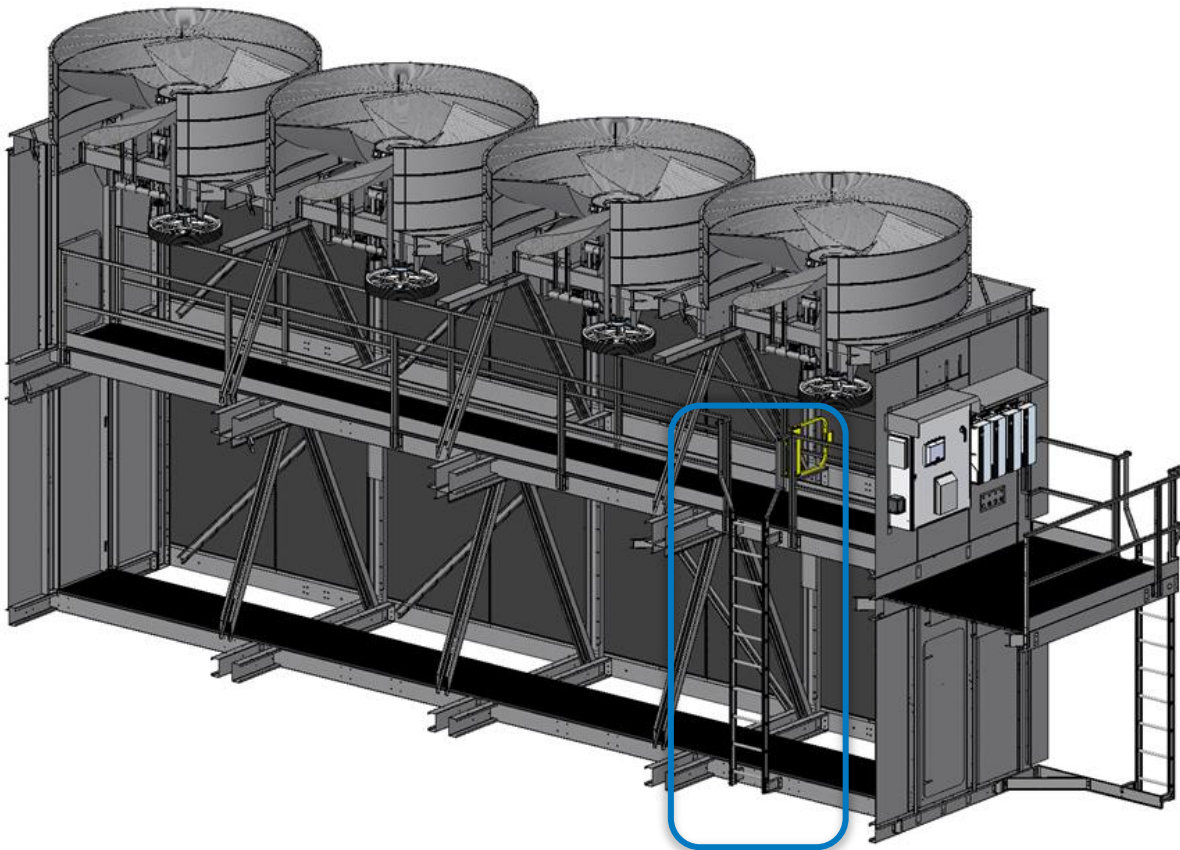

**Figure 41. Access Door Platform Installation**
This section sets forth the procedures for installing the access door platform. An image of the installed platform appears in **Figure 41**. The platform can be on either side of the unit; its placement may depend on site specifications. Handrails and toeboards are pre-assembled to the access door platform. See submittal for job-specific details.
1. Starting with the factory assembled access door platform shown in **Figure 41** align the platform railings and platform with the factory-installed brackets on the customer-specified platform installation location in the submittal.
2. Mount access door platform and railings to factory-installed brackets with eight (8) 3/8" x 1-1/4" bolts as shown in **Figure 41**.